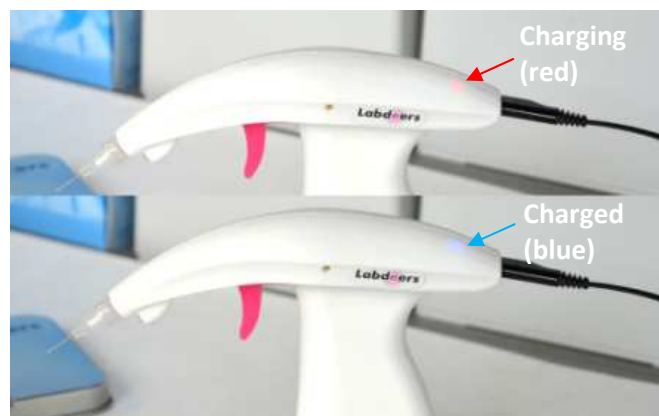

Figure 5. Charging status
2. Charging mode is indicated by red light, the blue light indicates fully charged device (Fig. 5).